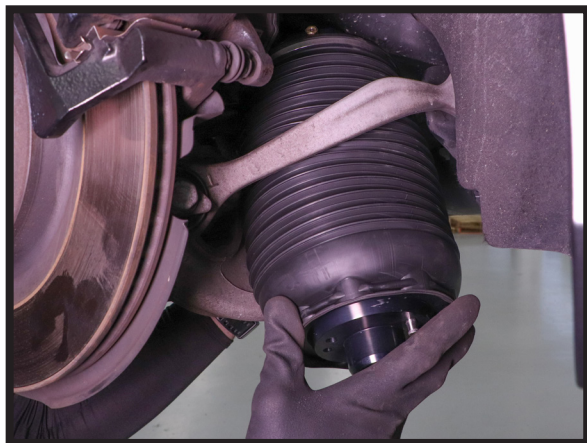

FIGURE 10
2. COMPRESS THE AIR SPRING AND INSTALL INTO THE VEHICLE, REINSTALLING THE LOWER SPRING GUARD WHILE DOING SO. (FIGURES 10, 11)